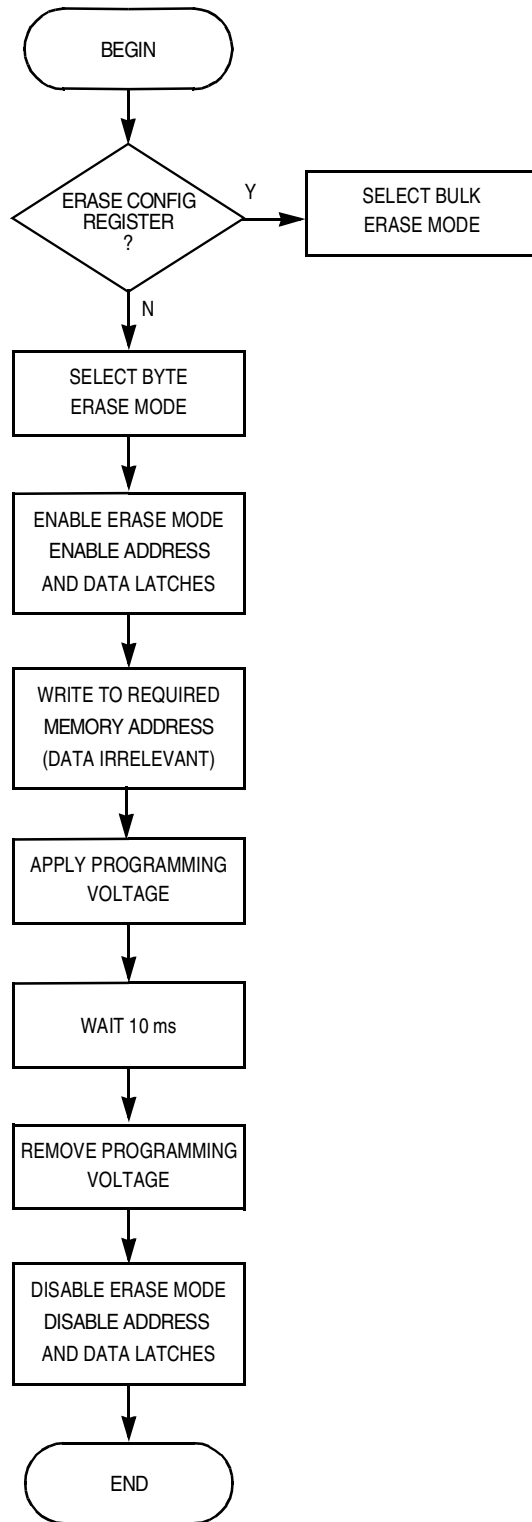
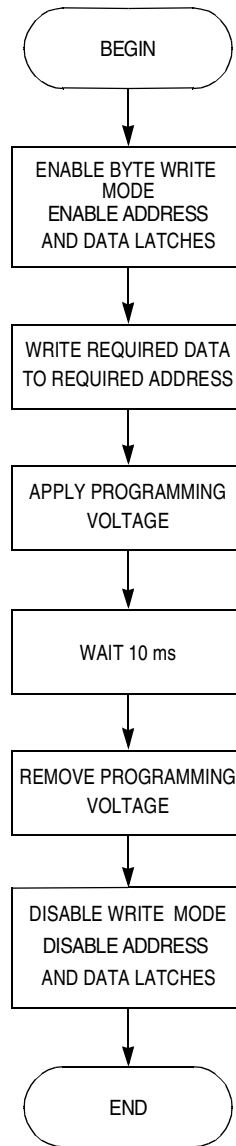

Figure 2. Internal EEPROM Erase Sequence
Figure 3. Internal EEPROM Write Sequence
**Figure 2** and **Figure 3** show the flowcharts of the internal EEPROM erase and write sequences.